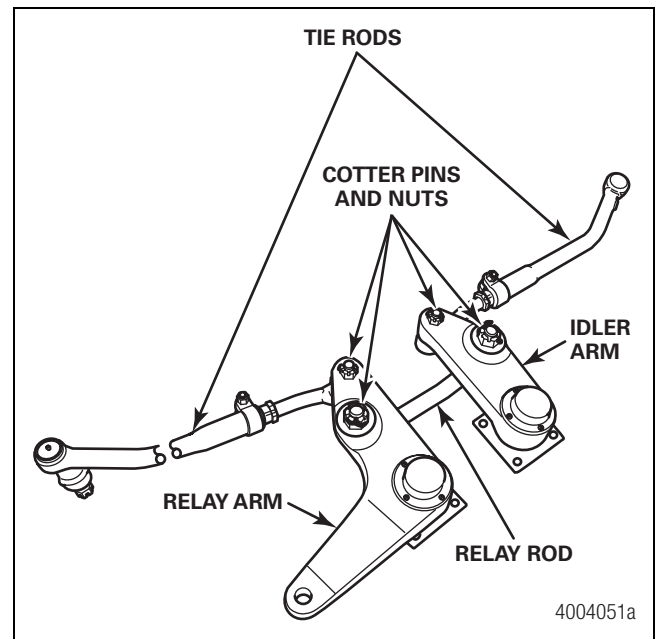

Figure 5.15
1. If necessary, remove the cotter pins and nuts that secure the tie rods to the steering, idler and relay arms. Separate the tie rods from the steering, idler and relay arms. Figure 5.15.
3. Remove the cotter pins and nuts that secure the relay rod to the idler and relay arms. Remove the relay rod. Figure 5.15.